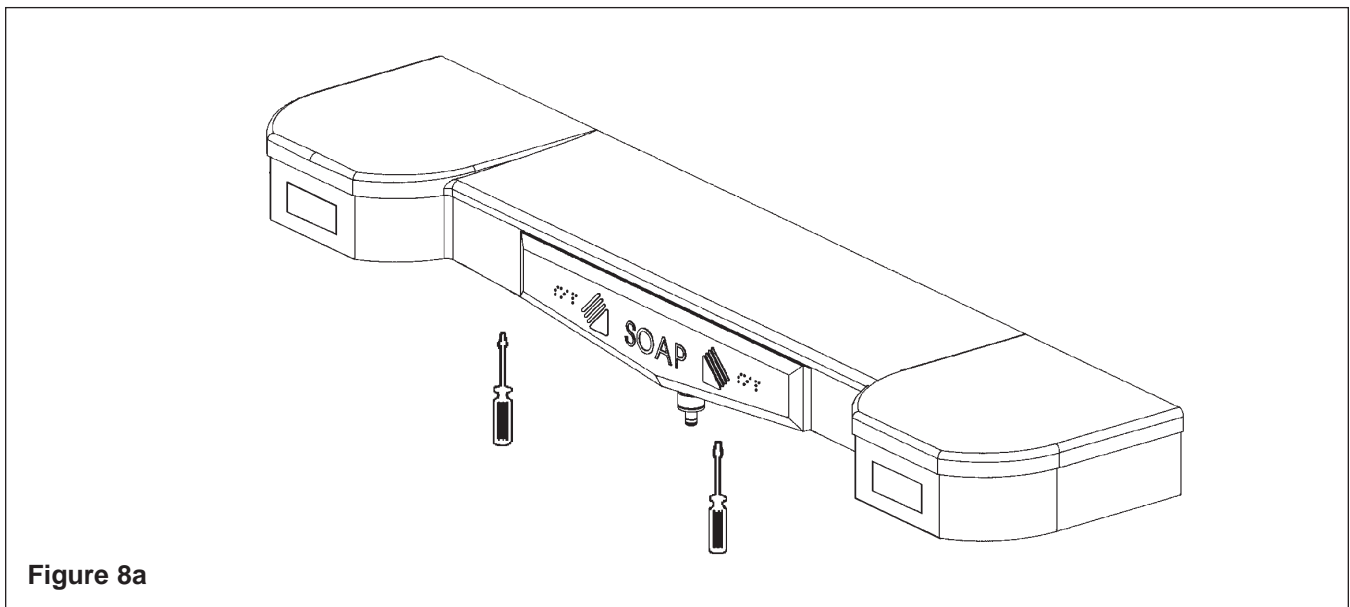

Figure 8a
1. Using two screwdrivers (or similar tool), push up on the release tabs located beneath the soap dispenser and pull out the soap tank from the sprayhead (see Figure 8a).